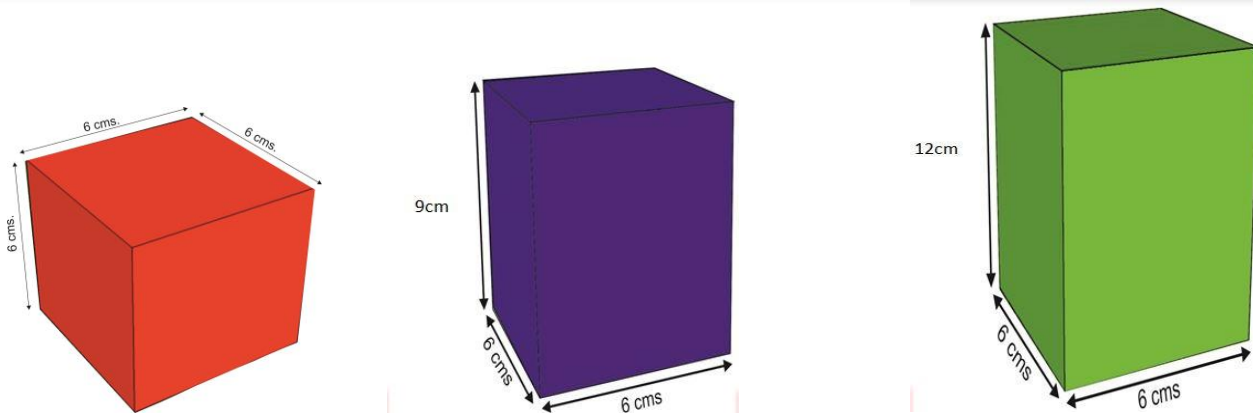

Figure 4: Examples of Blocks Representing Pizzas
- Dimension of Large block is 6cm x 6cm x 12cm, Medium block is 6cm x 6cm x 9cm and Small block is 6cm x 6cm x 6cm as shown in Figure 4. (If the Thermocol sheets of required dimensions are not available then the teams may cut or join the available sheets on their own).
- Team prepares a total of 6 blocks in each size, Large, Medium and Small. 2 blocks each of size Large are covered with Red, Blue and Green colored chart paper respectively. Similarly, 2 blocks each of size Medium are covered with Red, Blue and Green colored chart paper respectively and 2 blocks each of size Small are covered with Red, Blue and Green colored chart paper respectively. Sample blocks are shown in Figure 4.